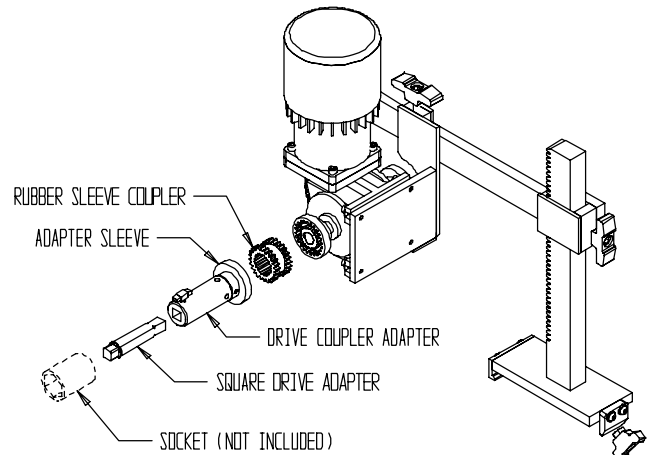

FIG. 21
RUBBER SLEEVE COUPLER: This is placed in the corresponding flange coupler already mounted in the spin drive shaft. See FIG. 21.
3. Place the proper 1/2" [12.7 mm] square drive socket or adapter on the reel drive nut and then insert the square drive shaft into the socket. Place the adapter sleeve over the drive shaft and insert the drive coupler adapter assembly into it. Finally place the rubber coupler onto the drive coupler adapter. See FIG. 21.